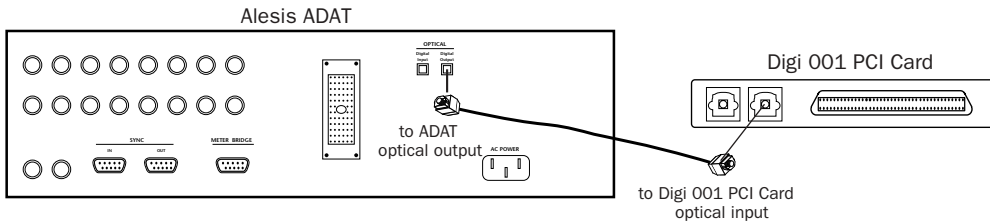

Figure 9. Connecting ADAT optical output to the Digi 001 PCI Card optical input
- 1 Connect the ADAT optical output to the Optical In port on the Digi 001 PCI Card (see Figure 9 on page 43).